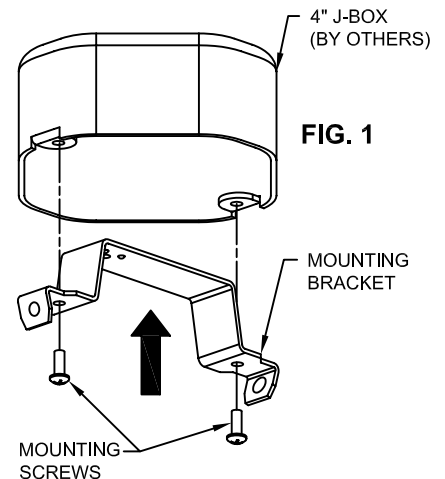

FIG. 1
1. Locate 4" OCTAGONAL J-BOX, flush with the ceiling surface (Fig. 1).
2. Install the Surface Mount Power Jack's MOUNTING BRACKET, by aligning the bracket's MOUNTING HOLES, with the holes in the J-BOX. Install and completely tighten the two (2) MOUNTING SCREWS (Fig. 1).